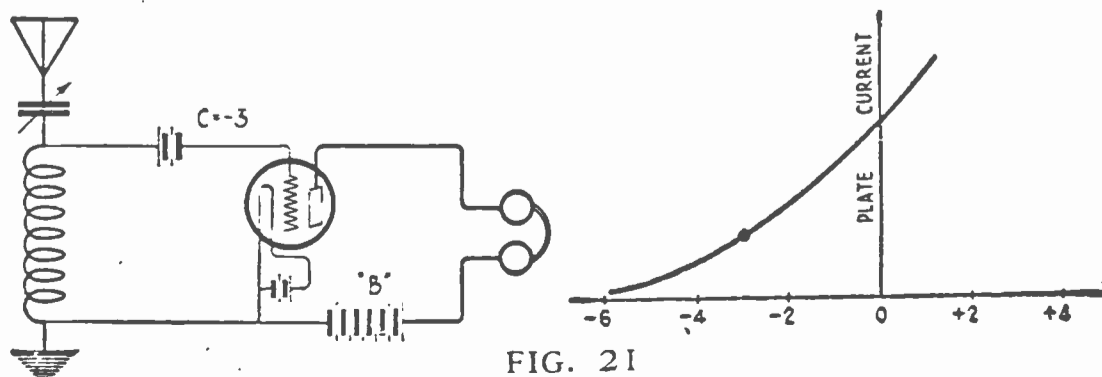

FIG. 21
**A** QUALITATIVE idea of the process of detection can be got from Fig. 21. A simple but complete receiving set is shown, along with the grid potential-plate current characteristic of the tube for the particular plate battery voltage used. A three-volt C battery is assumed, and the dot on the characteristic at minus three is called the “operating point” because it is about this point that fluctuations occur. When radio waves of the frequency for which the antenna is tuned are arriving, they cause current of the same frequency to flow in the antenna circuit, of which the coil is a portion. These currents flowing through the reactance of the coil produce alternating potential differences between the ends of the coil and hence fluctuations of the grid’s potential relative to the filament. From the way the characteristic curve bends, it is easy to see that if the grid potential moves one volt to the right the plate current will increase more than it would decrease if the grid potential moved one volt to the left. Thus if the grid potential is fluctuating between the values  $-2$  and  $-4$  (at any frequency) the average value of plate current will be greater than if the grid potential were fixed at  $-3$ . Furthermore, if the grid potential alternates between  $-1$  and  $-5$  the effect is still more pronounced. As a result of this we may say that the average value of plate current is increased by the presence of high-frequency current in the antenna, and the amount of increase is greater the greater the current in the antenna. Hence the average current through the receivers varies in the same way as the voice current used at the transmitting station to modulate